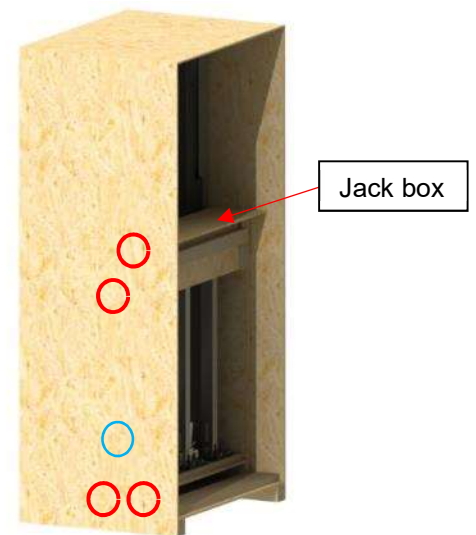

Figure 36
- 10) Unscrew the Robertson #8-10 x 1.5" screws holding the jack box – four screws per side: two screws at the top, two screws at the bottom. The blue circle represents the screw holding the crate, the jack box and the binding blocks. This screw is only on the left side of the crate. Unscrew it as well. (Figure 36)